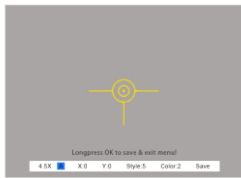

Fig. 19
- Press [Key 1]/[Key 3] to the reticle adjustment option. Press [Key 2] to enter the sub-menu interface (Fig. 19).